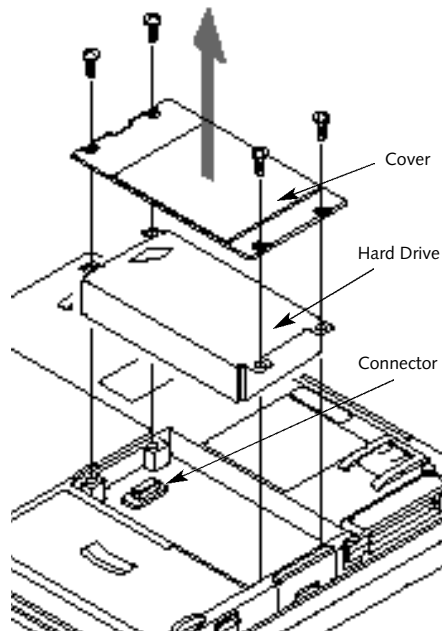

Figure 5-2 Installing and Removing the Internal Hard Drive
2. Remove the four screws from the hard drive compartment in the bottom of your notebook. (Figure 5-2.)
1. Carefully plug in the connector of the new hard drive being sure to align the connectors. (Figure 5-2.) Make sure the connectors seat completely.